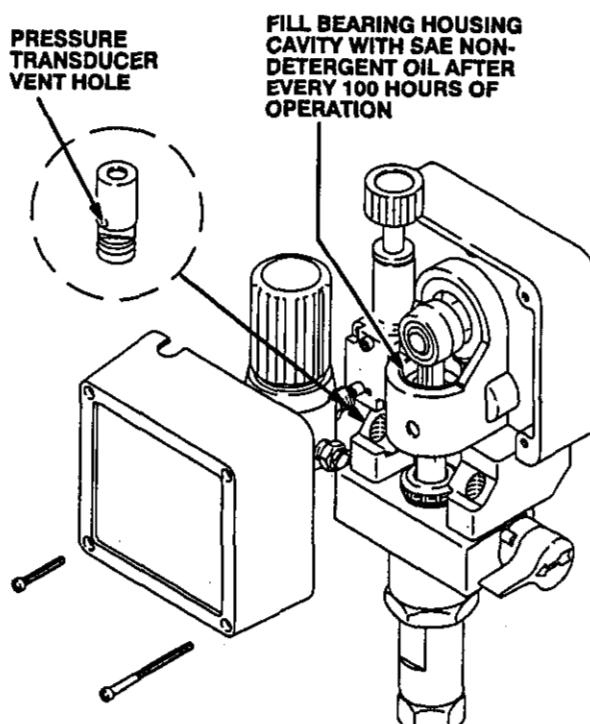

Fig 11
4. **Periodically clean paint residue from the pressure transducer vent hole area.** See Fig 11. Replace the transducer when leakage is excessive. See page 27.
5. **Lubricate the bearing housing after every 100 hours of operation.** Remove the front cover. Fill the bearing housing cavity with SAE 10 non-detergent oil. See Fig 11.